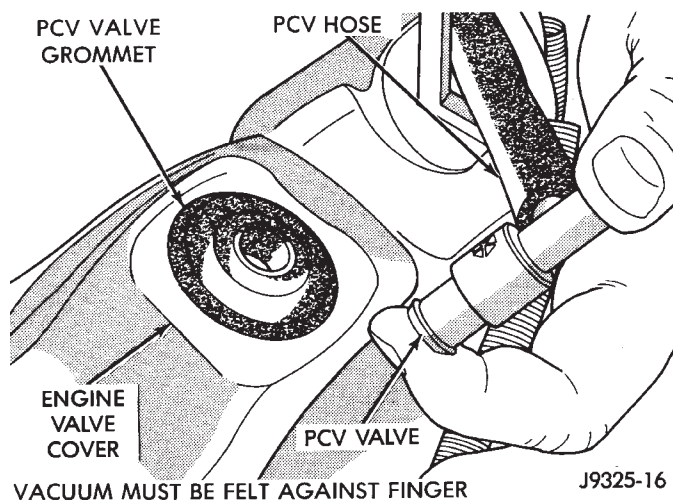

Fig. 13 Check Vacuum at PCV Valve—Typical
(1) With engine idling, remove the PCV valve from cylinder head (valve) cover. If the valve is not plugged, a hissing noise will be heard as air passes through the valve. Also, a strong vacuum should be felt at the valve inlet (Fig. 13).